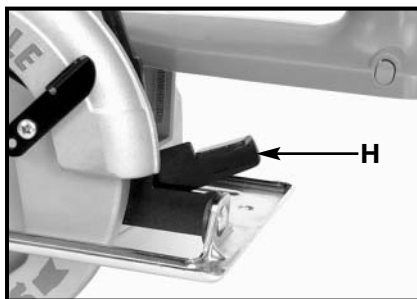

Fig. 9
1. Lift up the depth adjusting lever (H) Fig. 9 at the rear of the saw.